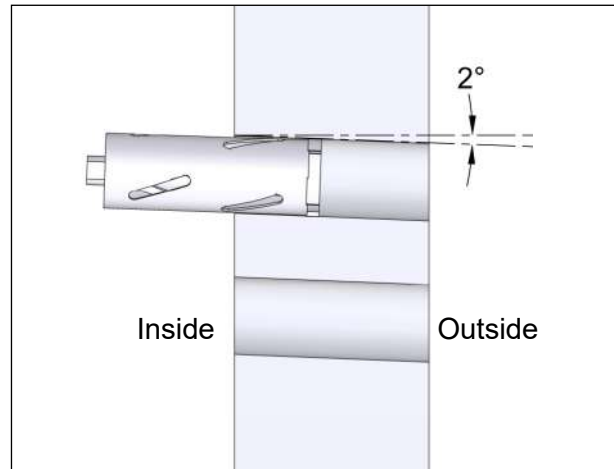

Fig. 18: Drilling core drill holes
- ▶ Drill the two Ø 120 mm core drill holes as described in Fig. 18.